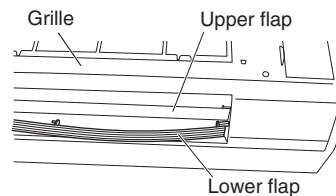

Fig. 3-14
- (5) Remove the lower flap by disengaging 4 pins of the lower flap in order. (Figs. 3-14 and 3-15)